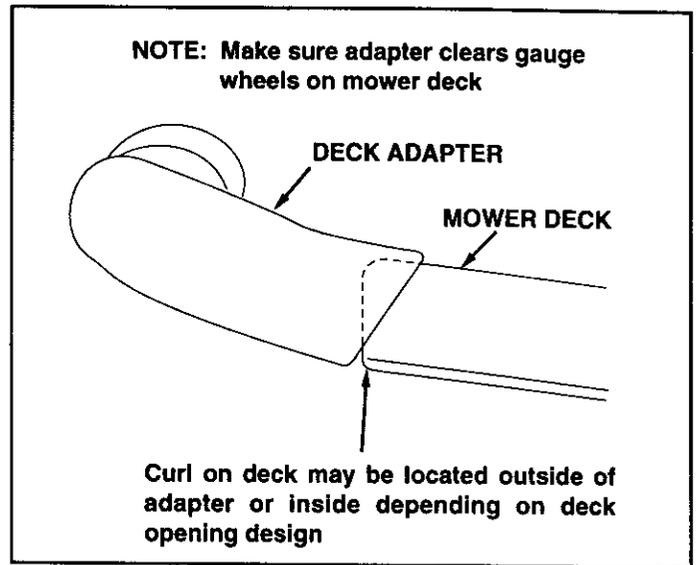

FIGURE 29
- Position the adapter over the deck opening, and check for fit of cutout as shown in figure 29. Trim cutout, if necessary, to allow tilting of adapter, keeping the fit as close as possible for best vacuum suction.